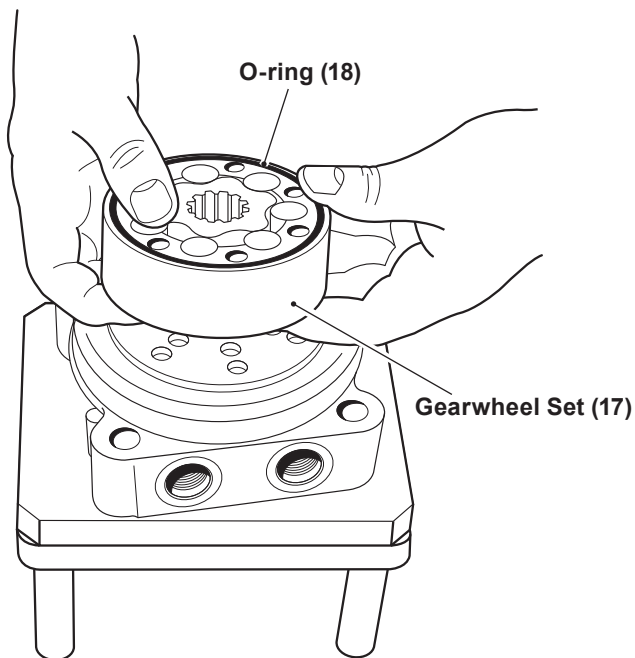

Figure 9, Gearwheel Set
1. Remove castellated nut (1), woodruff key (6), plastic plugs (8), retaining ring (2), seven screws (22), seven washers (23), and the end cover (19). See pages 5 and 6.
2. Remove the O-ring (18) and gearwheel set (17). Discard O-ring (18). See figure 9.